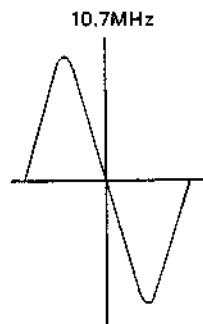

Fig. 26
- Adjust the T801,807,809,810, of FM IFT so that the response of the "S" curve may become maximum and symmetric. (Fig. 26)